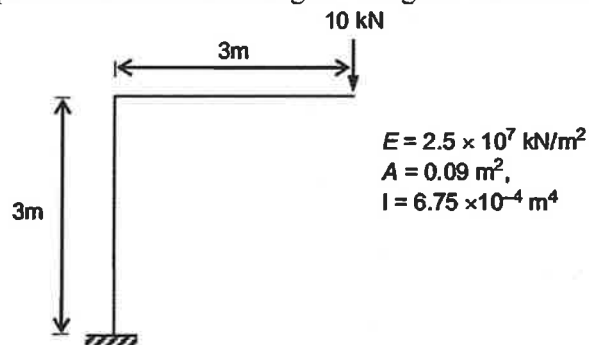

Fig. 8
15. B). Analyze the plane frame shown in Fig. 8 using the direct stiffness method.